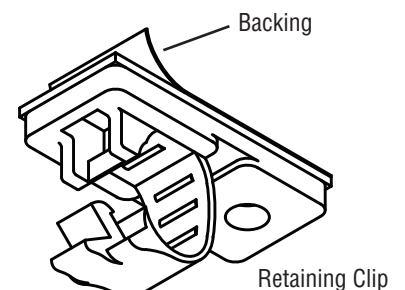

Fig. 4
**NOTE:** Interconnect cable is UL rated CL2. Installer should check with local building codes to determine if CL2 wire is allowed to run through floors, walls and ceilings. (See Fig. 4)